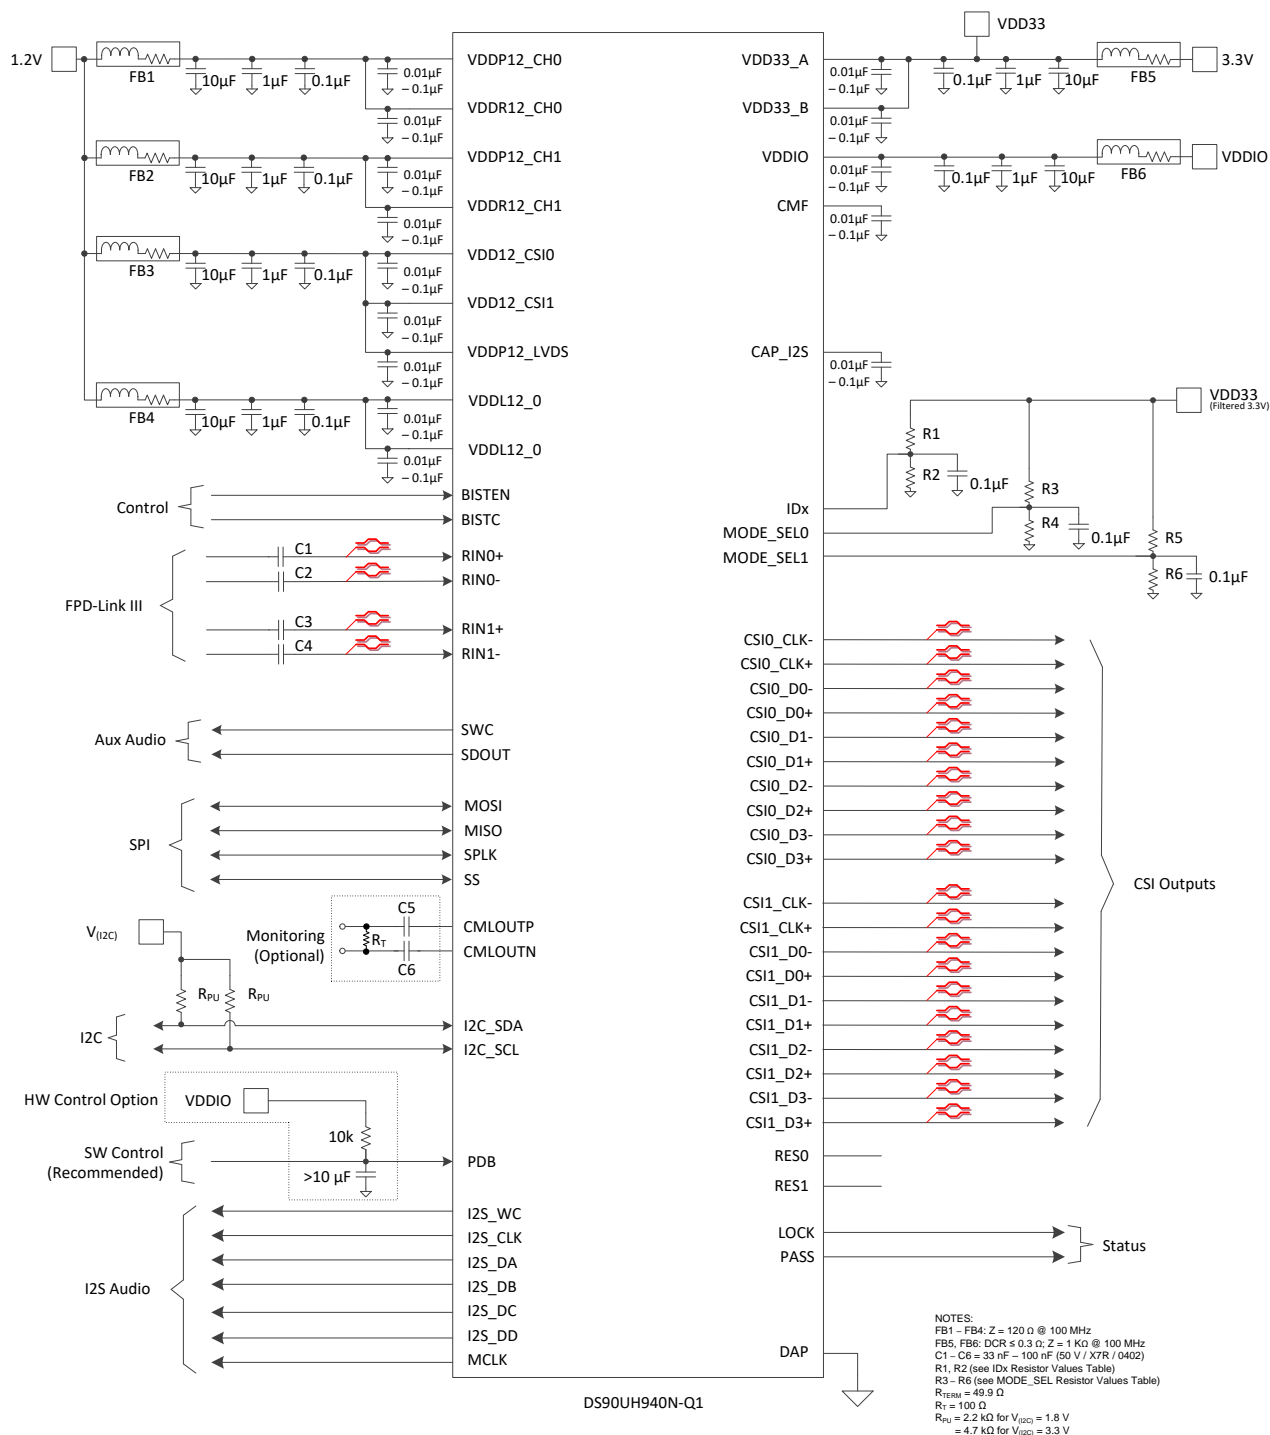
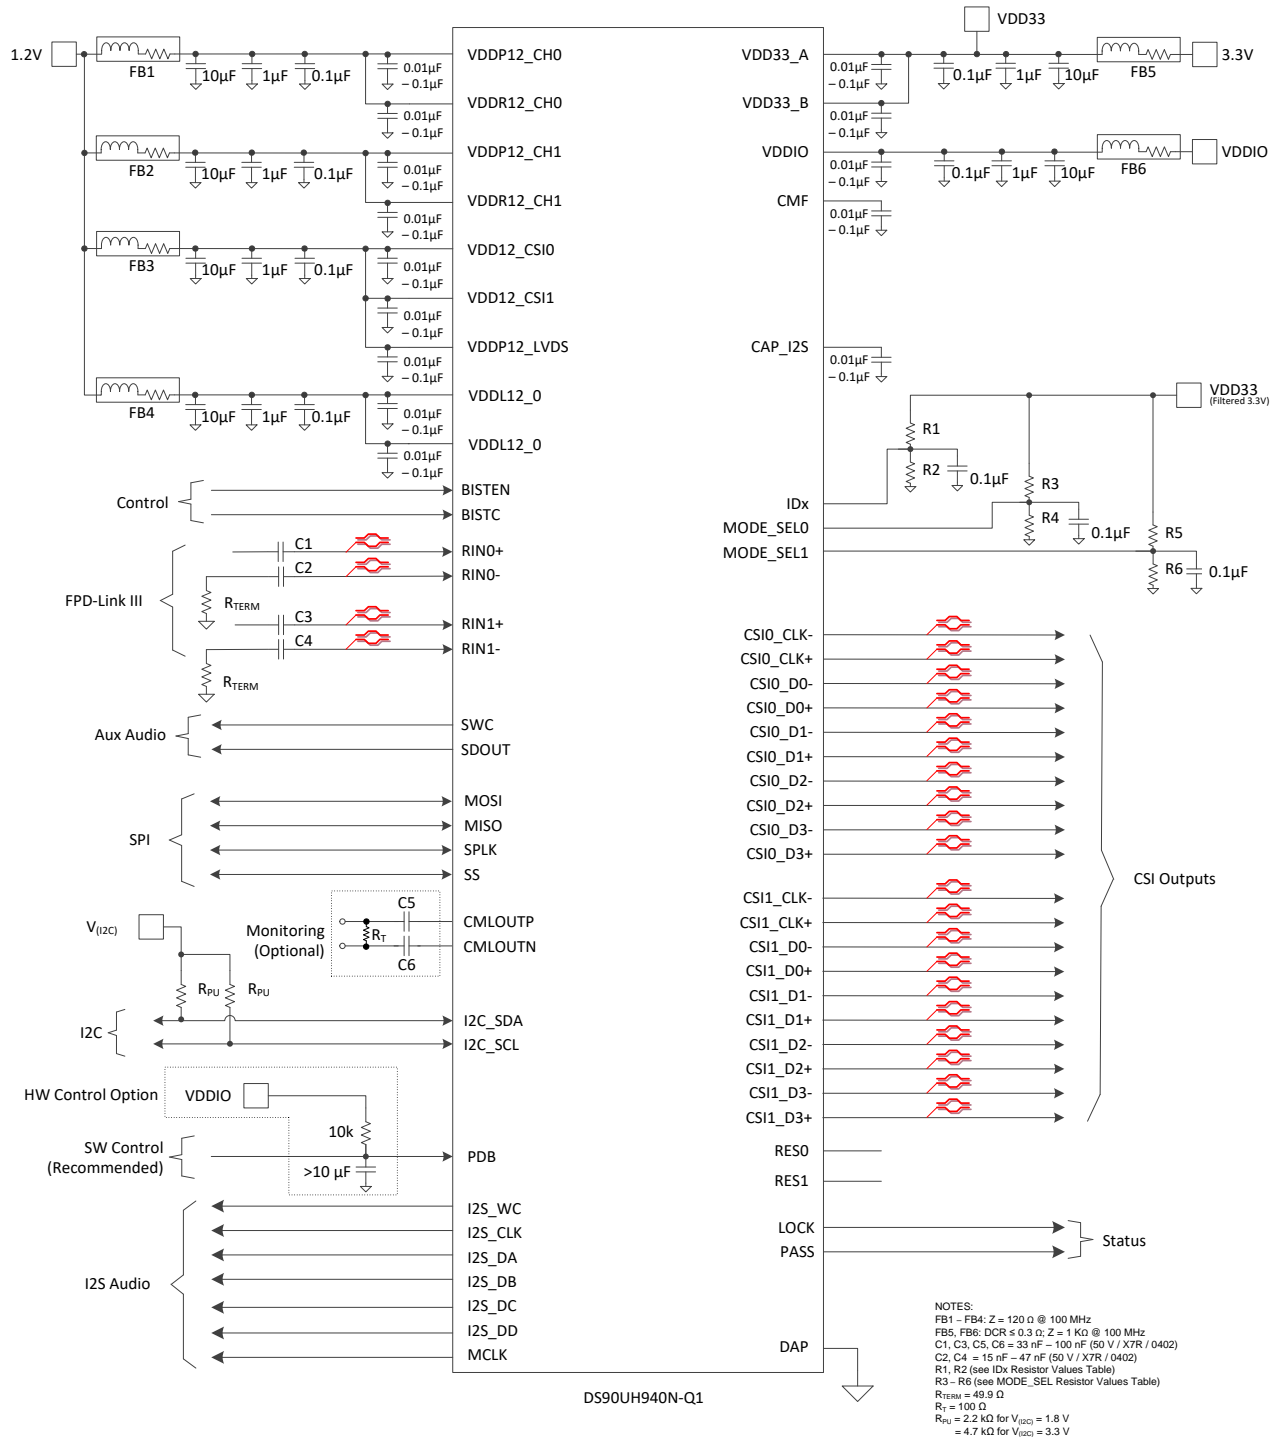

图 38. Typical Connection Diagram (STP)
图 39. Typical Connection Diagram (Coax)
Bypass capacitors must be placed near the power supply pins. At a minimum, use four (4) 10-μF capacitors for local device bypassing. Ferrite beads are placed on the two sets of supply pins (VDD33 and VDDIO) for effective noise suppression. The interface to the graphics source is LVDS. The VDDIO pins may be connected to 3.3 V or 1.8 V. A capacitor and resistor are placed on the PDB pin to delay the enabling of the device until power is stable. See 图 38 for a typical STP connection diagram and 图 39 for a typical coax connection diagram.